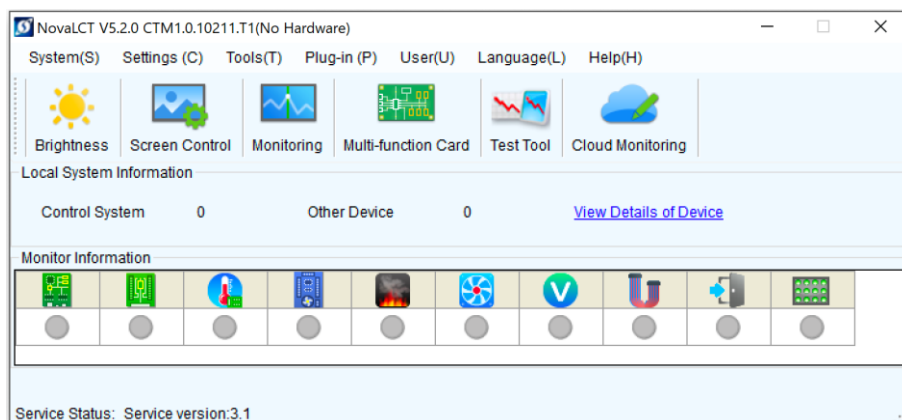

Figure 93: Starting the Monitoring Function
- Step 1) Click the **Monitoring** button to open the monitoring interface (see Figure 93).